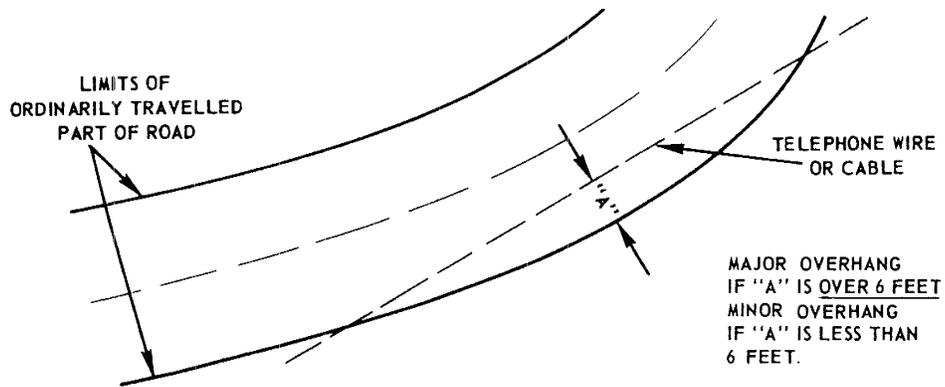

Fig. 3
1.04 Clearance requirements for drop wire overhanging the travelled part of roads vary somewhat with the degree of overhang involved. (See tables under Part 2A, 2B of this section and Fig. 3). Eliminating or reducing road overhang will frequently permit smaller ground clearances.
| Major Overhang | Fig. 3 | 18-0 | 18-3 | 18-6 | 19-3 | 20-2 | (18-0) | (18-5) | (19-0) |
| Minor Overhang | Fig. 3 | | | | | | | | |
| Running Along: Public Roads Major Overhang | Fig. 3 | 21-3 | 22-4 | 23-5 | (19-9) | (20-6) | (21-3) |
| Minor Overhang Urban | Fig. 3 — | 19-9 | 20-4 | 20-11 | (18-3) | (18-6) | (18-9) |
| Major Overhang | Fig. 3 | 18-3 | 18-6 | 19-5 | 20-8 | (18-0) | (18-7) | (19-4) |
| Minor Overhang | Fig. 3 | | | | | | | |
| Running Along: Public Roads Major Overhang | Fig. 3 | 22-0 | 23-5 | (20-0) | (20-5) |
| Minor Overhang Urban Rural (Lt. Traffic) | Fig. 3 — — | 20-0 16-0 | 21-3 17-3 | (18-0) (14-0) | (18-3) (14-3) |